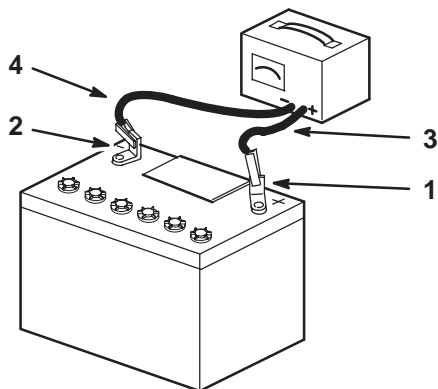

Figure 61
4. When the battery is fully charged, unplug the charger from the electrical outlet, then disconnect the charger leads from the battery posts (Fig. 61).